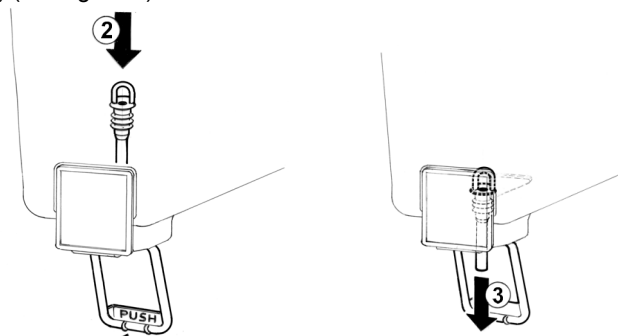

figure 5
- 2 **Pinch tube faucet:** push the dispensing handle (1) and insert the pinch tube into its vertical seat in the bowl bottom(2). Lightly pull the pinch tube end downwards til it is well arranged (3) (see figure 5).